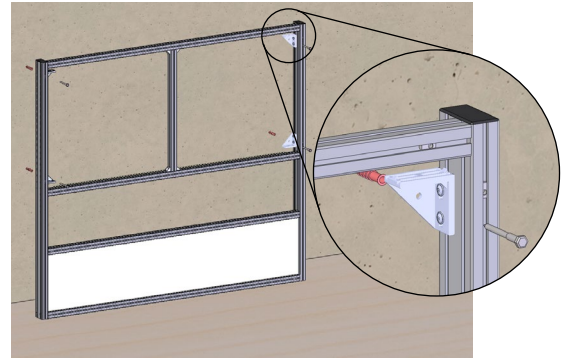

fig. 3.2-12
Step ⑩ The brackets **A2f** are now also attached to the top guide grooves on the insides of the side stands (**fig. 3.2-12**). To do this, please use 2 M8x20 **Verbus-Ripp screws** per bracket and tighten these firmly (approx. 25 Nm).